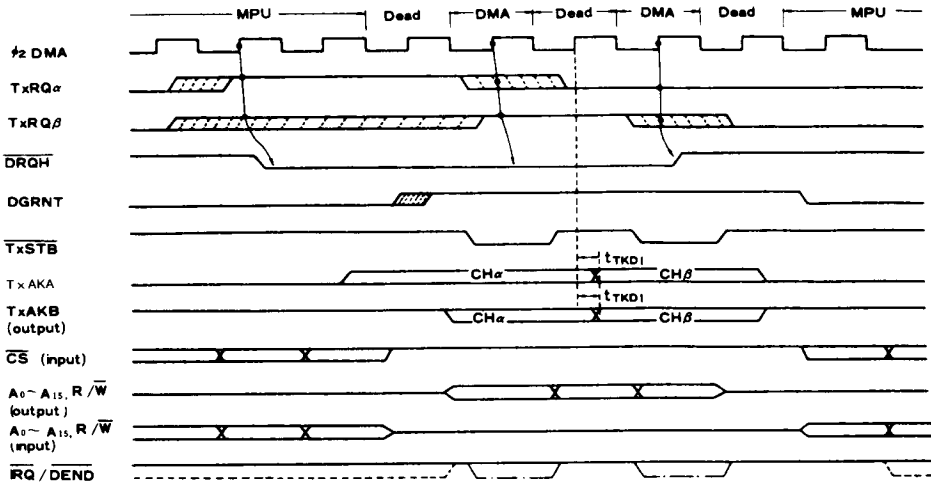

Figure 23 Channel Change (HALT Mode  $\rightarrow$  HALT Mode)
- (1) From HALT mode to HALT mode (Fig. 23)